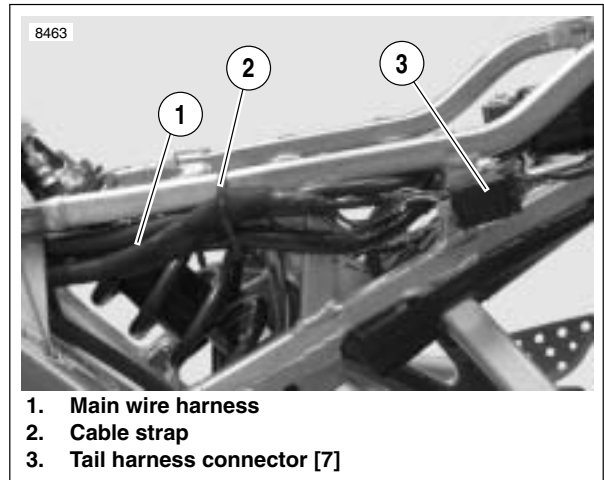
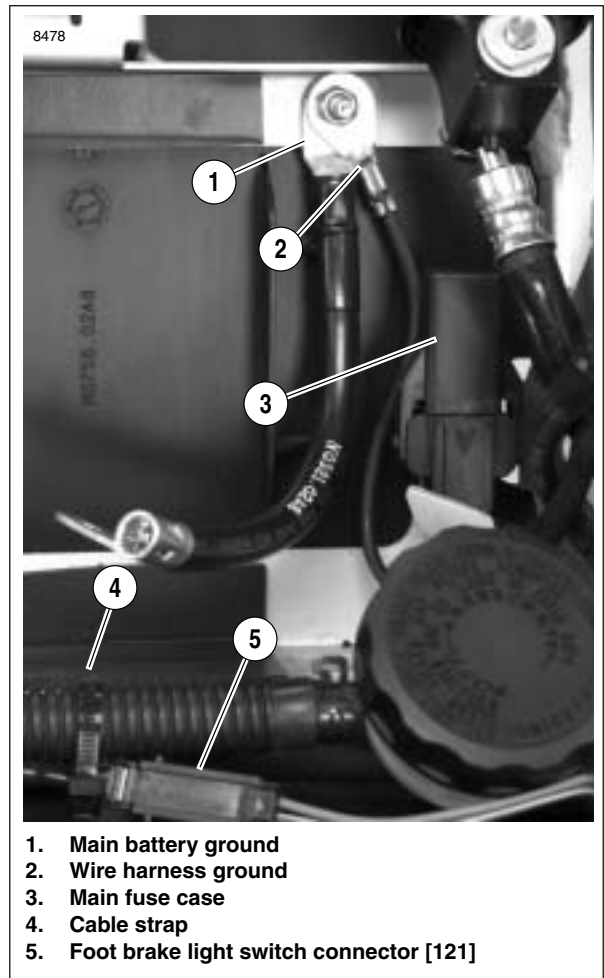

Figure 7-77. Tail Harness Connector
Figure 7-78. Battery Tray Wiring
7. See Figure 7-77. Disconnect tail harness connector [7] (3).
8. See Figure 7-78. Remove wire harness ground (2).
9. Remove main fuse case (3).
11. Disconnect foot brake light switch connector [121] (5).
21. See Figure 7-78. Connect foot brake light switch connector [121] (5). Install cable strap (4).
22. Install main fuse case (3).
23. Install main battery ground (1) and wire harness ground (2). Tighten fastener to 48-72 **in-lbs** (5.4-8.1 Nm).
24. See Figure 7-77. Connect tail harness connector (3). Attach cable strap (2).